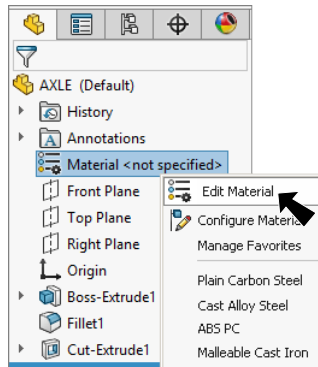

Fig. 13
Step 1. **Right click Material**  in the Feature Manager and click **Edit Material**, **Fig. 13**.